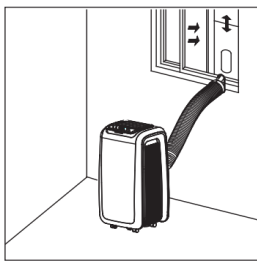

fig. 3
4. Open the window then adjust and fix the window kit. (fig. 3)